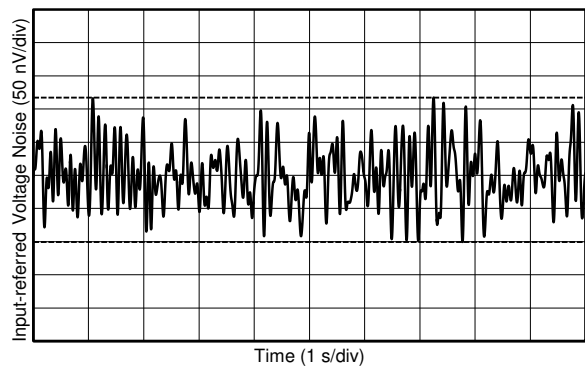

Figure 18. 0.1-Hz to 10-Hz Voltage Noise
0.1-Hz to 10-Hz Voltage Noise	Figure 18